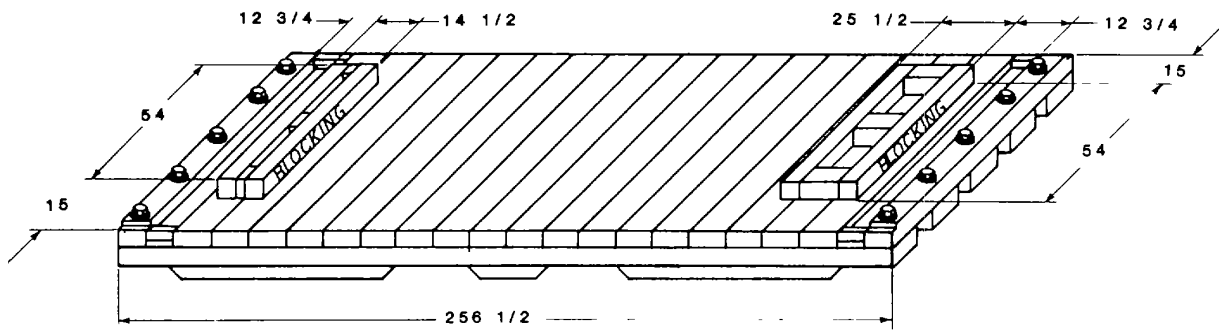

Figure B-2-3. Location of Blocking for the Control Unit.
<p>2 cont</p>	<p>(2) Pack the control unit in a submethodIIa floating bag. Refer to figure B-2-3 for location of nesting frame.</p> <p>(a) Place 64, 16-unit bags of MIL-D-3464 desiccant with the control unit. Isolate the desiccant from the control unit with MIL-B-121 barrier and secure with MIL-T-22085 tape. PPP-T-60 tape may be used as a substitute.</p> <p>(b) Place a MS20003-2 humidity indicator and inspection window in the lower right hand corner of the tool box end of the control unit.</p> <p>(3) Place crate top over control unit ensuring that inspection window is alined with the humidity indicator. Secure top to base with FF-B-561 lag bolts (3/8 x 4).</p> <p>(4) Mark container in accordance with appendix E and the following: Mark all four sides of the container with 2-inch minimum size letters to indicate "REUSABLE CONTAINER - DO NOT DESTROY."</p> <p>f. Preservation of the Air Compressor.</p> <p>(1) Engine.</p> <p>(a) Drain normal lubrication oil.</p> <p>(b) Fill with MIL-L-21260, type I, grade 30 preservative oil.</p> <p>(c) Remove spark plug.</p> <p>(d) Atomize spray 1-1/2 ounces of MIL-L-21260, type I, grade 30 preservative oil through spark plug opening while manually cranking the engine.</p> <p>(e) Install spark plug.</p> <p>(f) Prepare a UU-T-81 tag indicating "CRANKCASE FILLED TO OPERATING LEVEL WITH PRESERVATIVE OIL GOOD FOR OPERATION UNTIL FIRST REQUIRED LUBRICANT CHANGE - DO NOT DRAIN - CHECK OIL LEVEL - IF LOW, FILL TO OPERATING LEVEL WITH OIL AS SPECIFIED IN LO 5-6115-550-12."</p> <p>(g) Attach the tag to the engine.</p>